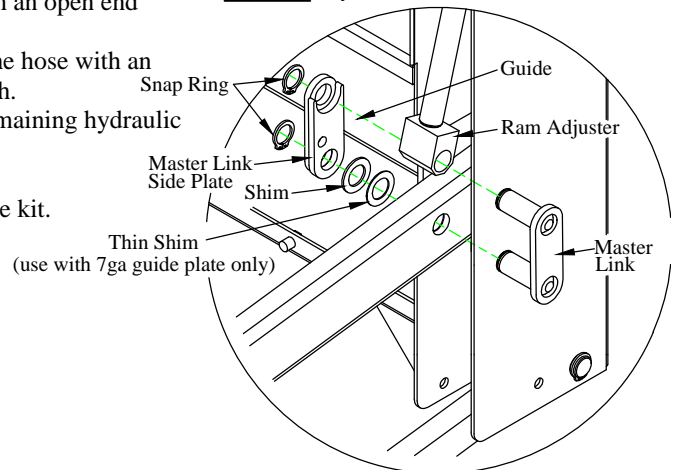

Figure 3: Master link assembly.
- 2. REMOVE** the master link assembly (Figure 3).
9. **INSTALL** the master link assembly (Figure 3).